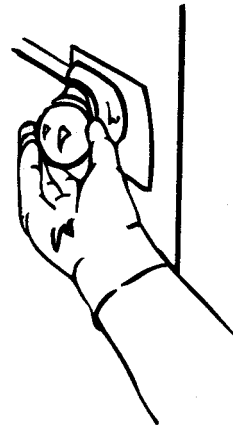

Figure 81
- d. Wear protective gloves to remove defective bulb and replace with functioning bulb. See Figure 81.